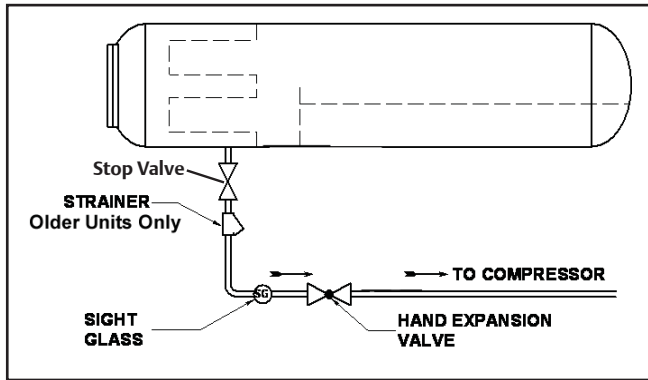

FIGURE 7.
8. The purpose of the oil bleed return assembly is to collect any oil that passes through the oil separating element and returns that oil to the compressor. The hand expansion valve should be adjusted to prevent an oil level from forming in the sight glass when the compressor is at 100% capacity. Generally 1/3 to 1 turn open is satisfactory. (See Figure 7)